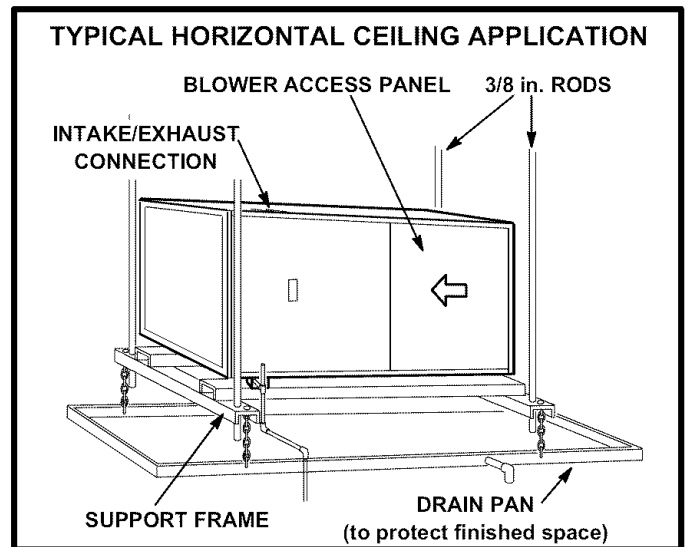

FIGURE 17
- 5 - Mount unit on support frame as shown in figure 17. Unit must be level to ensure proper coil drainage.
- 7 - Hang drain pan below support frame as shown in figure 17. Leave 5-1/2 inches for service clearance below unit for condensate trap.